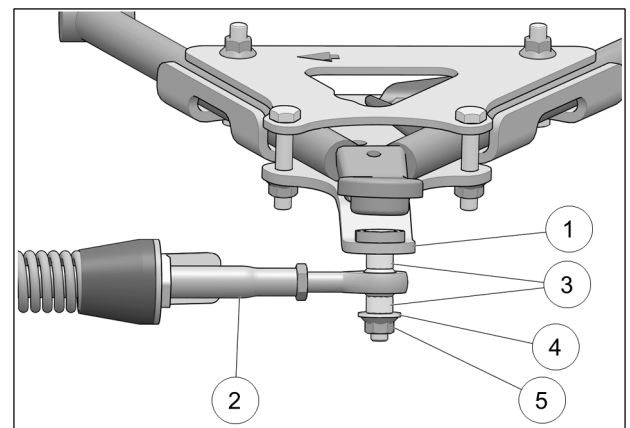

Fig. 19
10. Attach the stabilizing rod (**2**) to the anchor bracket (**1**), using the two spacers (**3**), washer (**4**), and nut (**5**). Torque to 70 N•m [52 lb•ft]. Refer to Fig. 19